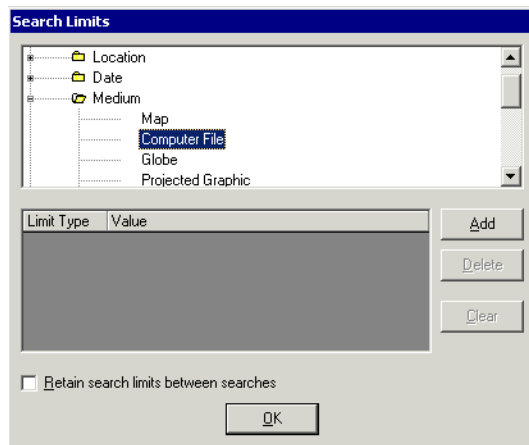

Figure 2-84. Computer File selected as search limit
3. Select any values from the list you want to use as limits for your search. Figure 2-84 shows the Medium limit of Computer File selected.